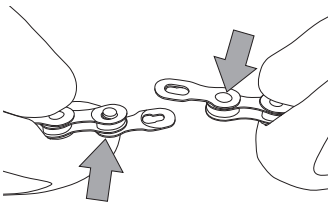

Fig.5
- Fit each pin of the C-Link™ in the two free holes on the inner links of the chain (Fig. 5).